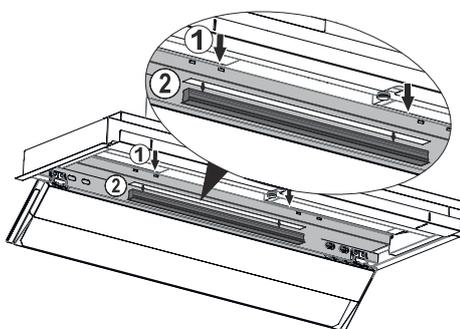

Fig. 26
3. → With one hand, press the lamp in the direction of the arrow (Fig. 26 /1), with the other hand hold the lamp so that it does not fall (Fig. 26/2).